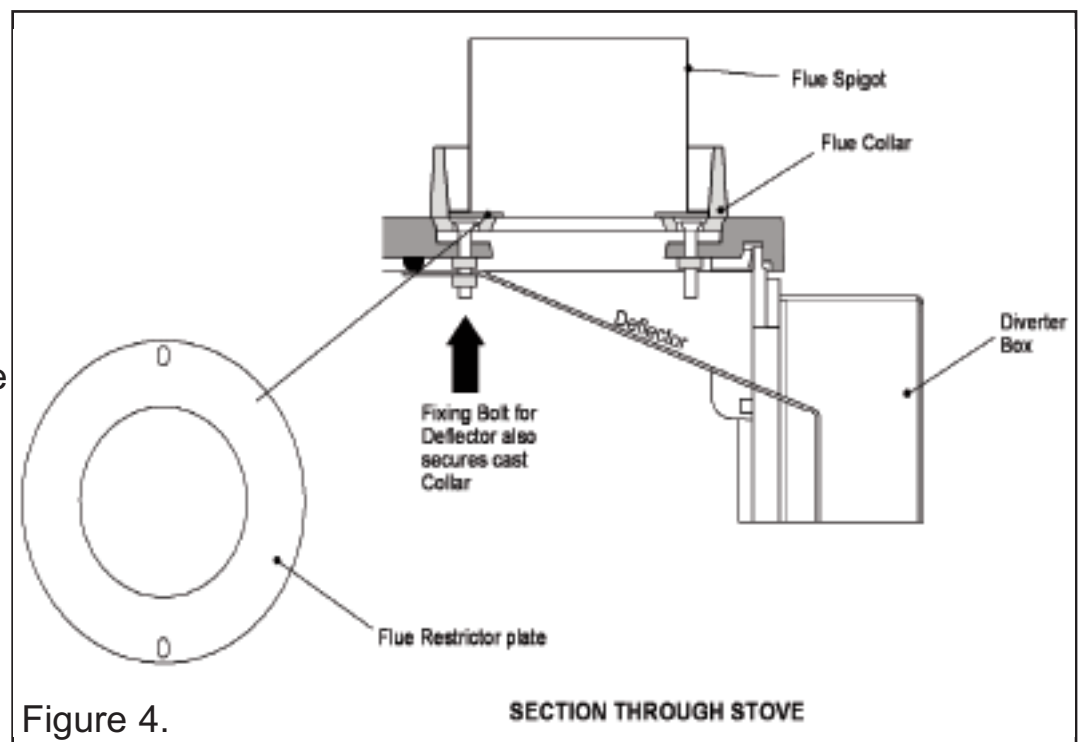
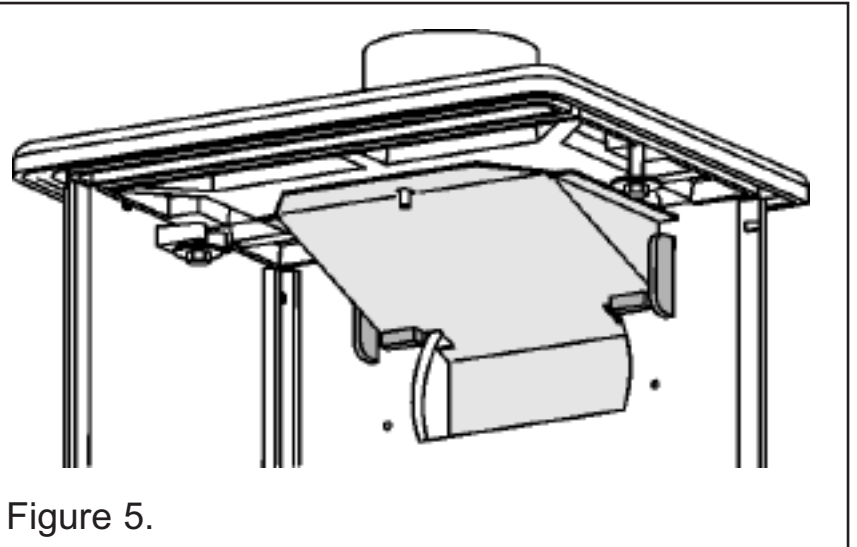

Figure 4.
Figure 5.
2. The deflector, diverter box and flue restrictor plate should be assembled to the stove as in figure 4. The deflector must be fitted first and is secured in place using the front bolt that secures the flue collar. Unscrew and remove the nut and washer from the front bolt and position the
deflector as in figure 5, securing it using the nut and washer. It **MUST** be sealed against the top of the stove casting. It is important that it sits on top and between the raised cast areas on the rear of the stove body (See figure 5). The flue spigot is screwed to the cast collar and clamps the flue restrictor plate in place (See figure 4).